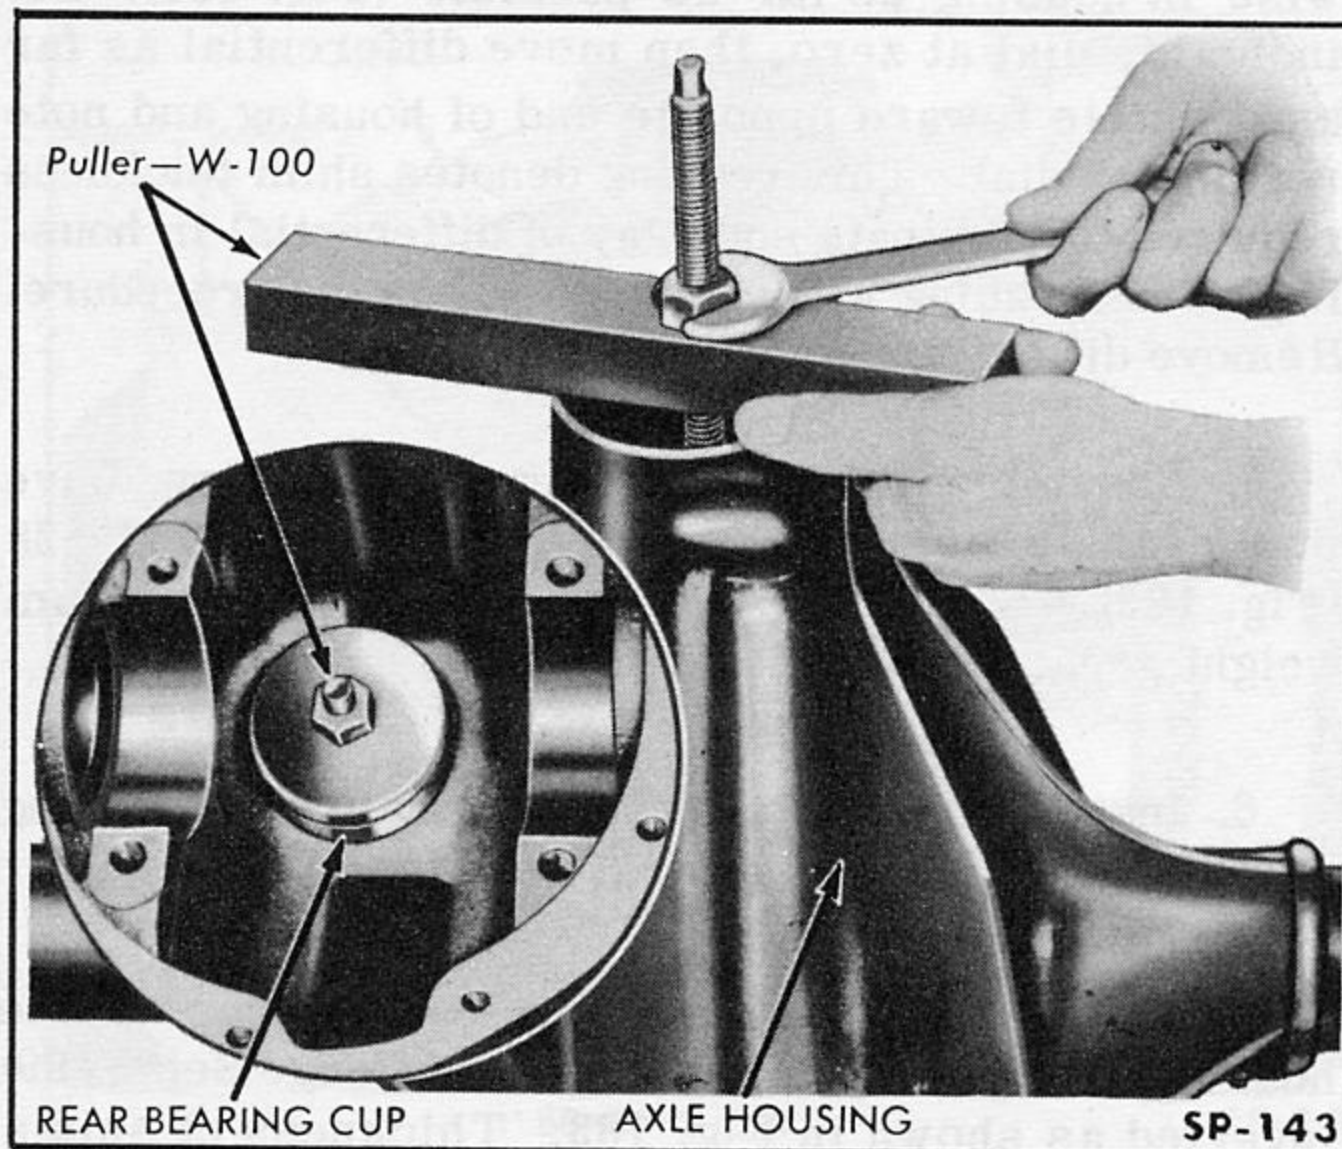

Fig. 183—Installing Pinion Rear Bearing Cup
7. Install shim pack and rear bearing cup in axle housing, using Puller W-100 (part of Gauge Set W-99) inverted as shown in Fig. 183. Thickness of shims can be determined as follows: